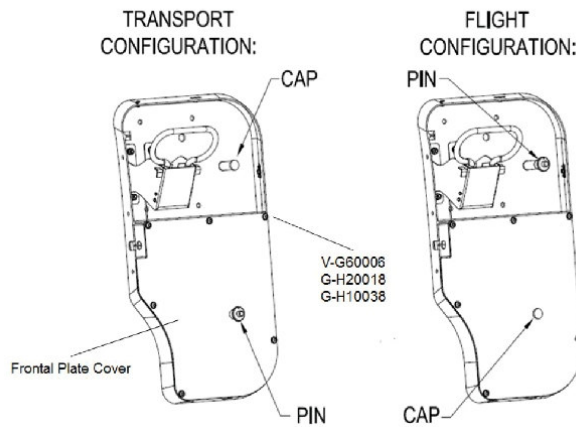

Figure 2 – Transport and flight configuration mode
- (1) If the ELS is installed on the helicopter, remove the front Fairing unscrewing the screws that hold it on the ELS and helicopter; refer to the applicable Data Module of the Aircraft Maintenance Manual.
- (2) Remove the Frontal Plate Cover P/N 310865B [310864B], unscrewing the six screws P/N V-G60006, refer to the applicable Data Module of the Aircraft Maintenance Manual or DISASSEMBLY section of the CMM 25-61-16.
- (3) Lock the raft actuation system.
- (a) Remove the Safety pin P/N G-C10005 located on the Frontal Plate from the flight configuration mode, Figure 2.